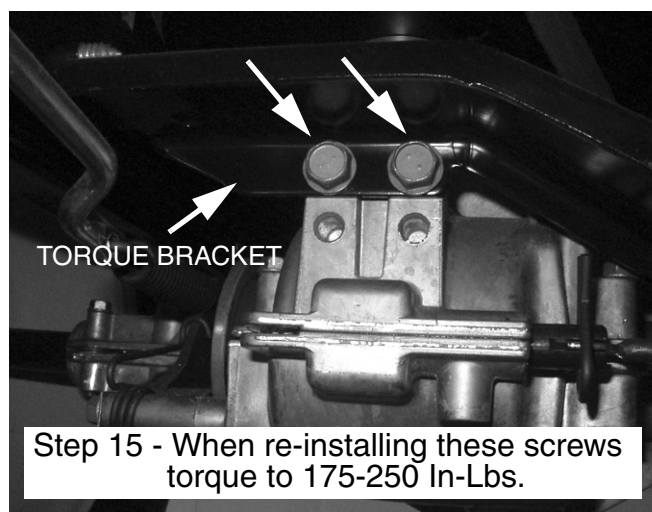

FIGURE 4
6. From the underside of the rider, using a 1/2" socket and ratchet, remove the two tapite screw that attach the torque bracket to the transmission. See Figure 4.
16. Install the new Torque Bracket/Idler assembly into the rider in the reverse order of the **Removal Instructions**. Refer to Figure 4 for torque specifications.